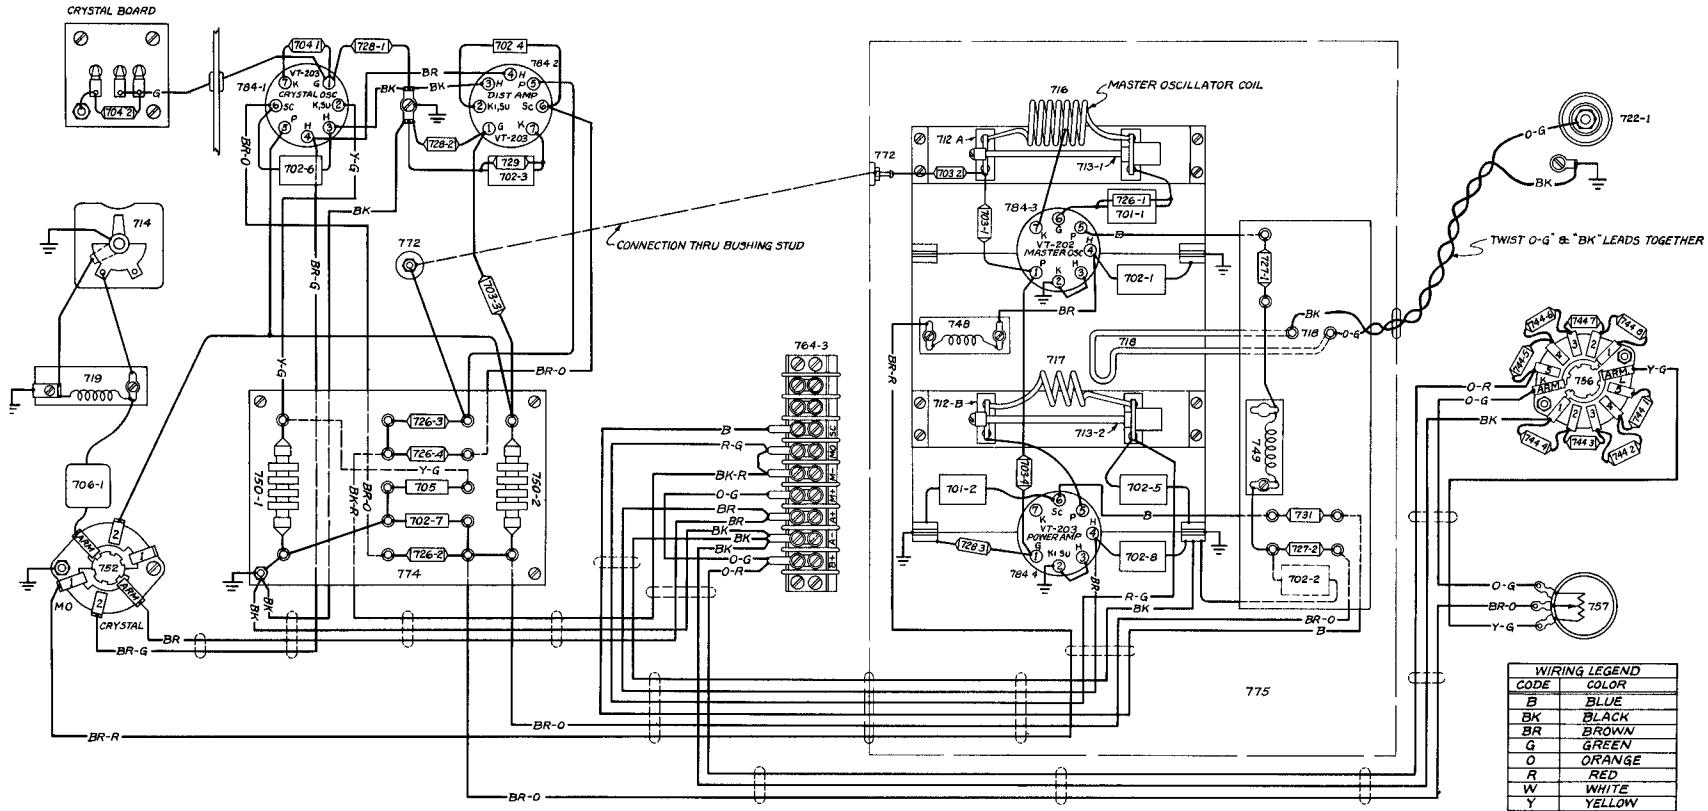

FIGURE 29—SIGNAL GENERATOR I-130-A, R-F UNIT, WIRING DIAGRAM
(9) In reassembling the variable-capacitor assembly, reverse the disassembly procedure and refer to the wiring diagram, FIGURE 29. Before replacing the split gears, lubricate the teeth sparingly with Royco No. 6A. The two gears of the split-gear assembly should be rotated against the spring pressure for a dis-